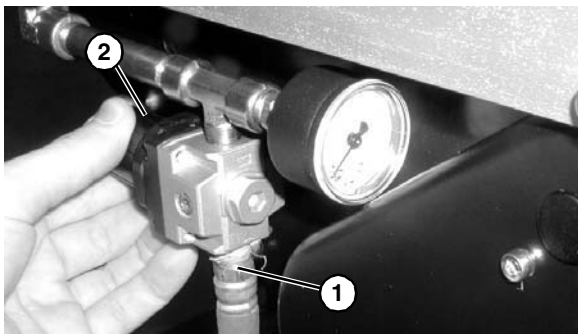

Figure 34
1. Connect air supply (**Figure 34, item 1**) to regulator (BG).
2. Adjust regulator (**Figure 34, item 1**) until gage reads the appropriate pressure. Adjust regulator starting at 15 psi sufficiently to keep belt from slipping up to the maximum shown in the following table.